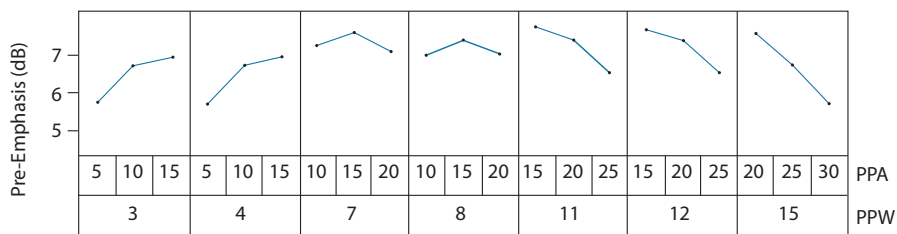
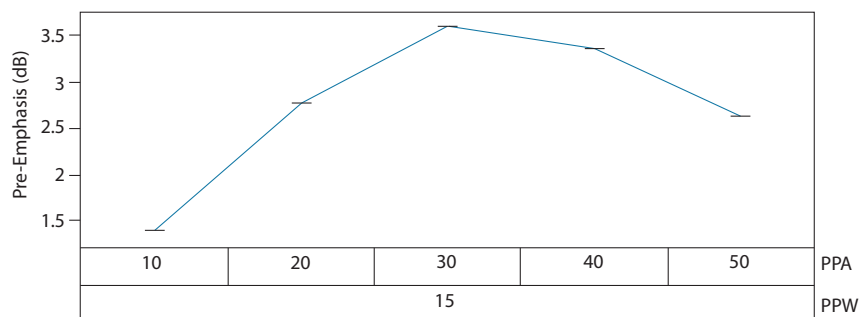

Figure 4-10: Pre-emphasis settings for VCCO_<n> = 1.2V and DS = 7 (swing = 200mVpp)
Figure 4-17: Pre-emphasis settings for VCCO_<n> = 2.5V and DS = 35 (swing = 800mVpp)
The only requirement of the trace driver pre-emphasis settings is to minimize ISI introduced by a lossy link and maximize the eye opening at the receiver. The Pre-emphasis compensation of the GS12341 output channel is a two-step process. The first step is to use the settings from Figure 4-10 to Figure 4-17 that best match the insertion loss of the link in the application, while the second step is a fine optimization procedure.
1. Pre-emphasis Amplitude (PPA) Optimization: Set the PPA and PPW to the values obtained from the graph selected out of Figure 4-10 to Figure 4-17, and then measure the downstream jitter. While keeping PPW constant, increment the PPA by 'a'. If the jitter is lower after the first increment, continue to increment by 'a' until the jitter begins increasing or a setting of 50 is reached. If there was a setting which resulted in a lower jitter measurement than the initial setting, that is the Optimized Pre-emphasis Amplitude setting: PPA_{Optimal}, and the PPA optimization procedure is complete.
If incrementing the PPA or decrementing the PPA did not result in a setting with lower jitter, then the initial setting obtained from the graph selected out of Figure 4-10 to Figure 4-17 is the PPA optimized Pre-emphasis Amplitude setting: PPA_{Optimal}.
2. The second step is to set the PPA to the optimized setting PPA_{Optimal} determined in step 1 and PPW to the values obtained from the graph selected out of Figure 4-10 to Figure 4-17, then measure the downstream jitter. While keeping PPA constant, increment the PPW by 'w'. If the jitter is lower after the first increment, continue to increment by 'w' until the jitter begins increasing or a setting of 15 is reached. If there was a setting which resulted in a lower jitter measurement than the initial setting, that is the Optimized Pre-emphasis Width setting: PPW_{Optimal}, and the optimization procedure is complete.
If incrementing the PPW or decrementing the PPW did not result in a setting with lower jitter, then the initial setting value obtained from the graph selected out of Figure 4-10 to Figure 4-17 is the optimized Pre-emphasis Width setting: PPW_{Optimal}.